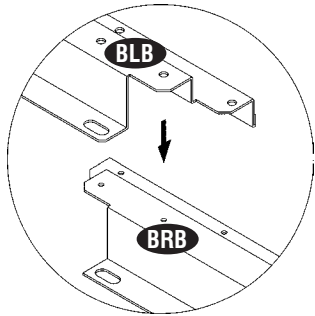

Fig.1
6. Assemble base bar back left (**BLB**) and base bar back right (**BRB**) with four (**S1**) screws. See fig. 1 & 2.